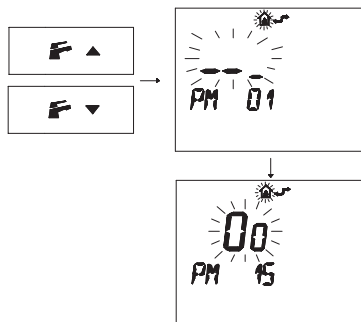

Fig. 7.13
- Press buttons **F**  $\nabla$  or **F**  $\blacktriangle$  to display the "PM15" program that enables the external probe (Fig. 7.13).